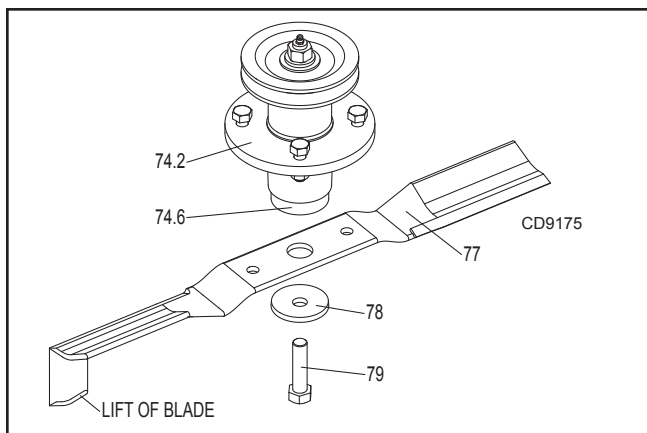

Figure 19. Blade and Spindle Assembly
1. Remove bolt (79), Figure 19, which has right hand threads.
2. Remove belville washers (78) and blade (77).
NOTICE: When installing blade, the lift of the blade must be toward the spindle blade housing as shown in Figure 19. Torque bolt (79) into shaft assembly to 100 lbs-ft.
2. Place Belleville washer (78) over blade and insert blade bolt (79). Torque blade bolt to 100 lbs-ft.